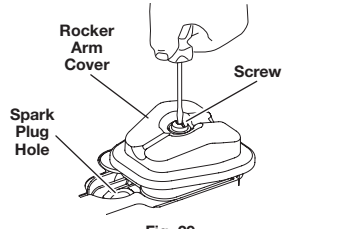

Fig. 29
4. Remove the screw holding the rocker arm cover with the appropriate tool (Fig. 29). Remove the rocker arm cover and gasket.
- The piston is at the top of its travel by looking in the spark plug hole (Fig. 29)
8. Reinstall the rocker arm cover using a new gasket (Fig. 29). Torque the screw to: 20–30 in•lb (2.2–3.4 N•m).